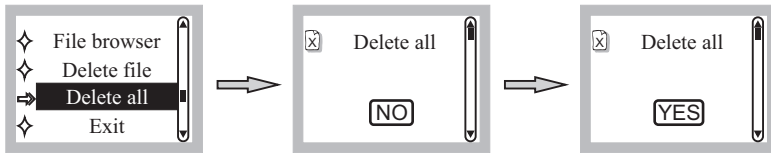

Fig. 27
- (3) Delete All: Press to enter the “Delete all” screen. Press or to select “NO” or “YES”. Press to confirm, Fig. 27.